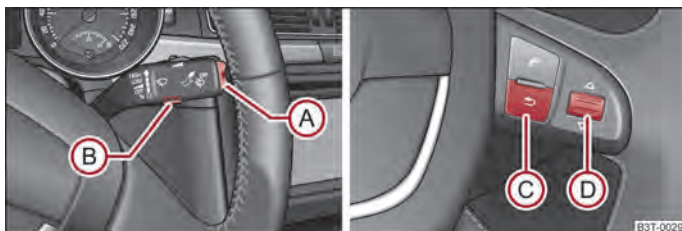

Fig. 6 Multi-functional indicator: Controls on the windshield wiper lever/controls on the multifunction steering wheel
Switching over the memory with the help of the button **(B)**  $\Rightarrow$  fig. 6 on the windscreen wiper lever or with the help of the button **(D)** on the  $\Rightarrow$  fig. 6 multifunction steering wheel.
The rocker switch (A)  $\Rightarrow$  fig. 6 and the button (B) are located on the windshield wiper lever. Switching over and resetting is performed with the handwheel (D)  $\Rightarrow$  fig. 6 on the multifunction steering wheel.
If the outside temperature drops below +4 °C, a snow flake symbol (warning signal for ice on the road) appears before the temperature indicator and a warning signal sounds. After pressing the rocker switch (A) at the windshield wiper lever  $\Rightarrow$  fig. 6 or the button (C) at the multifunction steering wheel  $\Rightarrow$  fig. 6, the function shown last is indicated.
The driving time which has elapsed since the memory was last erased, appears in the display. If you wish to measure the driving time as of a particular time, you must set the memory to zero at this moment in time by pressing the button (B) on the windshield wiper lever  $\Rightarrow$  fig. 6 or the handwheel (D) on the multifunction steering wheel  $\Rightarrow$  fig. 6 for longer than 1 second.
If you wish to determine the average fuel consumption over a certain period of time you must set the memory to zero at the start of the measurement using the button **(B)** on the windshield wiper lever ⇒ fig. 6 or with the handwheel **(D)** on the multifunction steering wheel ⇒ fig. 6. A zero appears in the display for the first 100 m you drive after erasing the memory.
The distance driven since the memory was last erased appears in the display ⇒ page 14. If you wish to measure the distance driven of a particular time, you must set the memory to zero at this moment in time by pressing the button **(B)** on the windshield wiper lever ⇒ fig. 6 or the handwheel **(D)** on the multifunction steering wheel ⇒ fig. 6.
The average speed since the memory was last erased is shown in the display in km/hour ⇒ page 14. If you wish to determine the average vehicle speed over a certain period of time you must set the memory to zero at the start of the measurement using the button **(B)** on the windshield wiper lever ⇒ fig. 6 or with the handwheel **(D)** on the multifunction steering wheel ⇒ fig. 6.
- With the **(A)** button on the multi-function steering wheel ⇒ fig. 6 or the handwheel **(D)** on the multi-function steering wheel ⇒ fig. 6 , choose the menu point **Warning against excessive speeds**.